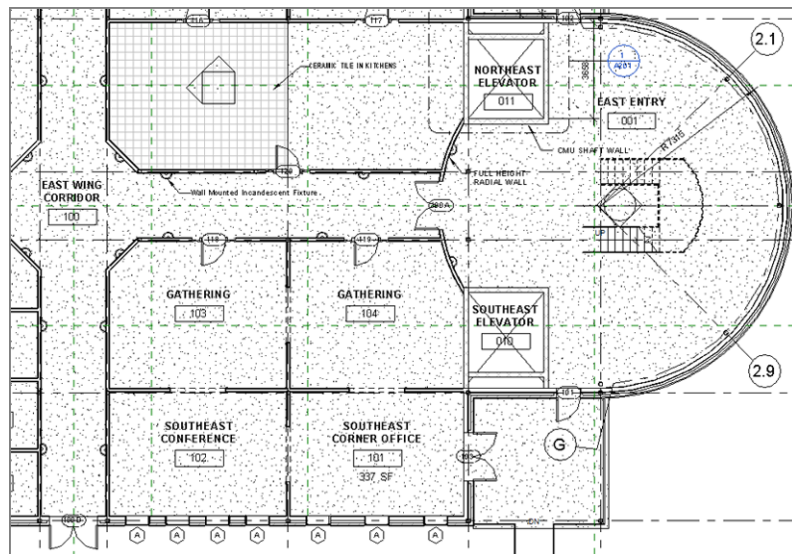

FIGURE 15.3: The first floor layout up to this point
2. Place a room in the adjacent area, as shown at the lower left in Figure 15.3.
3. Call the room SOUTHEAST CONFERENCE (see Figure 15.3).